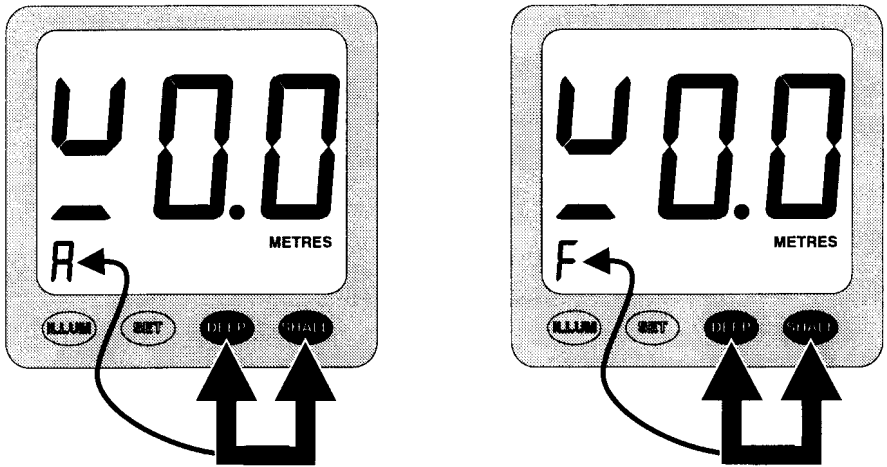

Figure 11- Switching Between Averaged and Fast Display Modes
The factory pre-set display mode is Fast (F), which shows depths as they are received twice a second. Press DEEP and SHALL together to switch between Fast (F) and Averaged (A) depth display. The present display status is shown on the digit in the left-hand bottom corner, which switches between F and A for each press of DEEP and SHALL together, as shown on Figure 11.